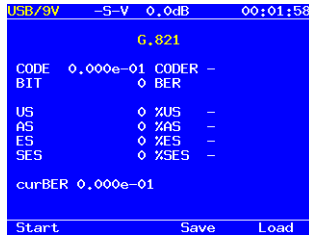

Figure 8.11. “G.821”
G.821 screen is shown on Figure 8.11.